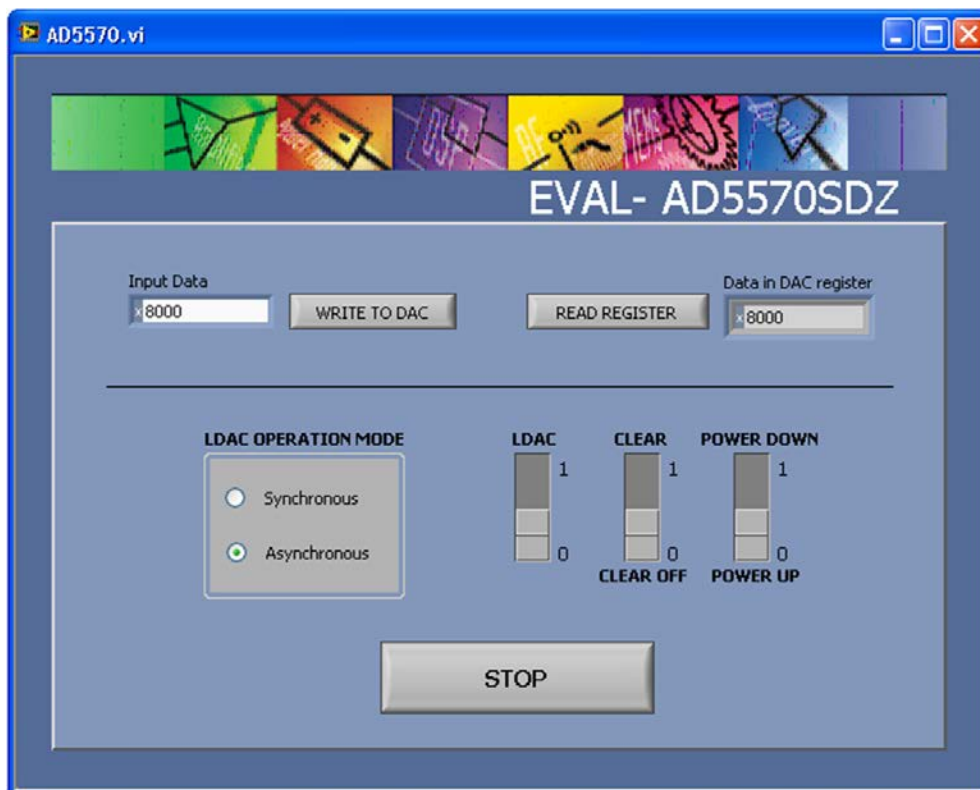

Figure 3. Main Window
1. From the **Start** menu, select **Analog Devices > AD5570 > AD5570 Evaluation Software**. The main window of the software opens (see Figure 3).